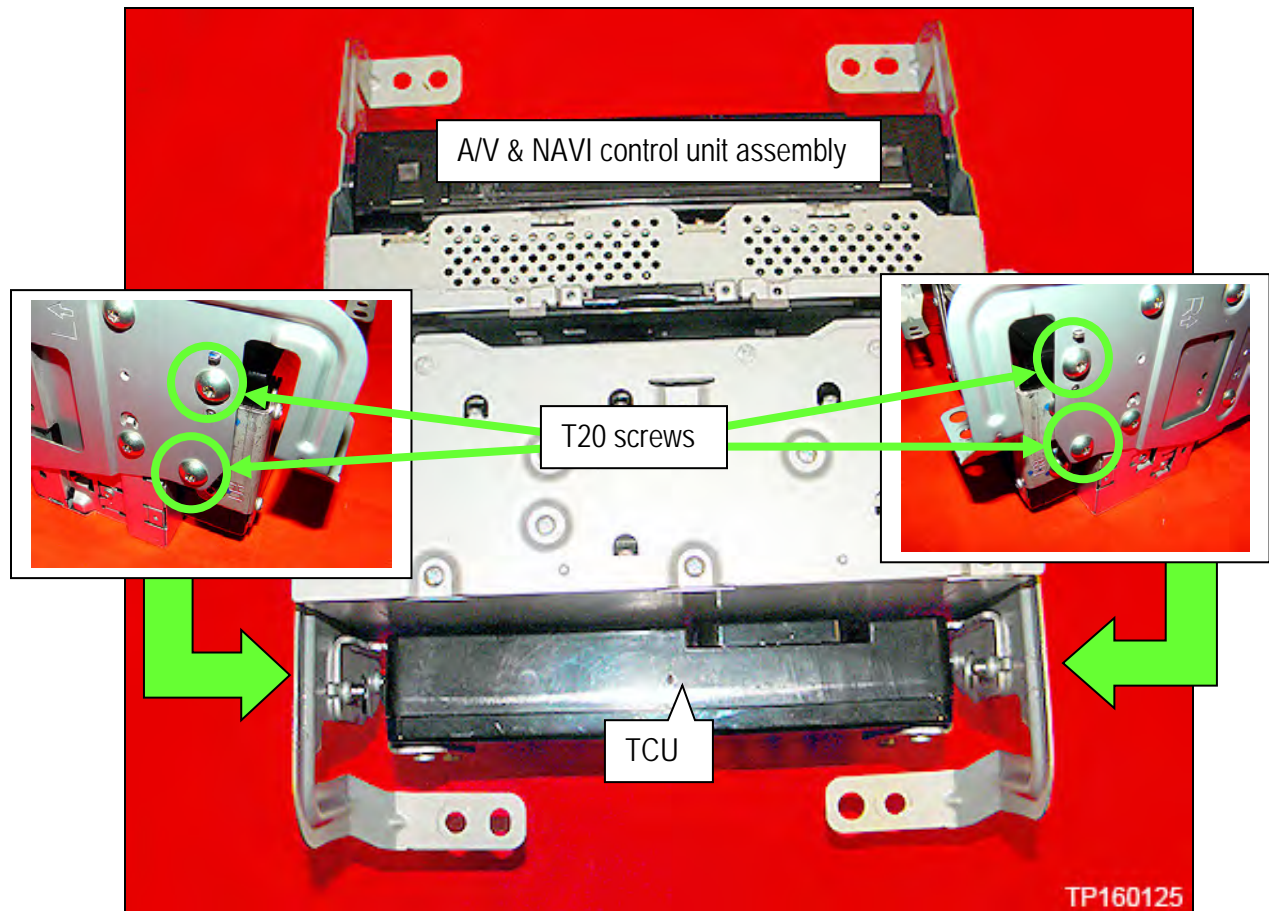

Figure 29D
11. Remove four T20 screws and remove the TCU from the A/V & NAVI control unit assembly (Figure 29D).